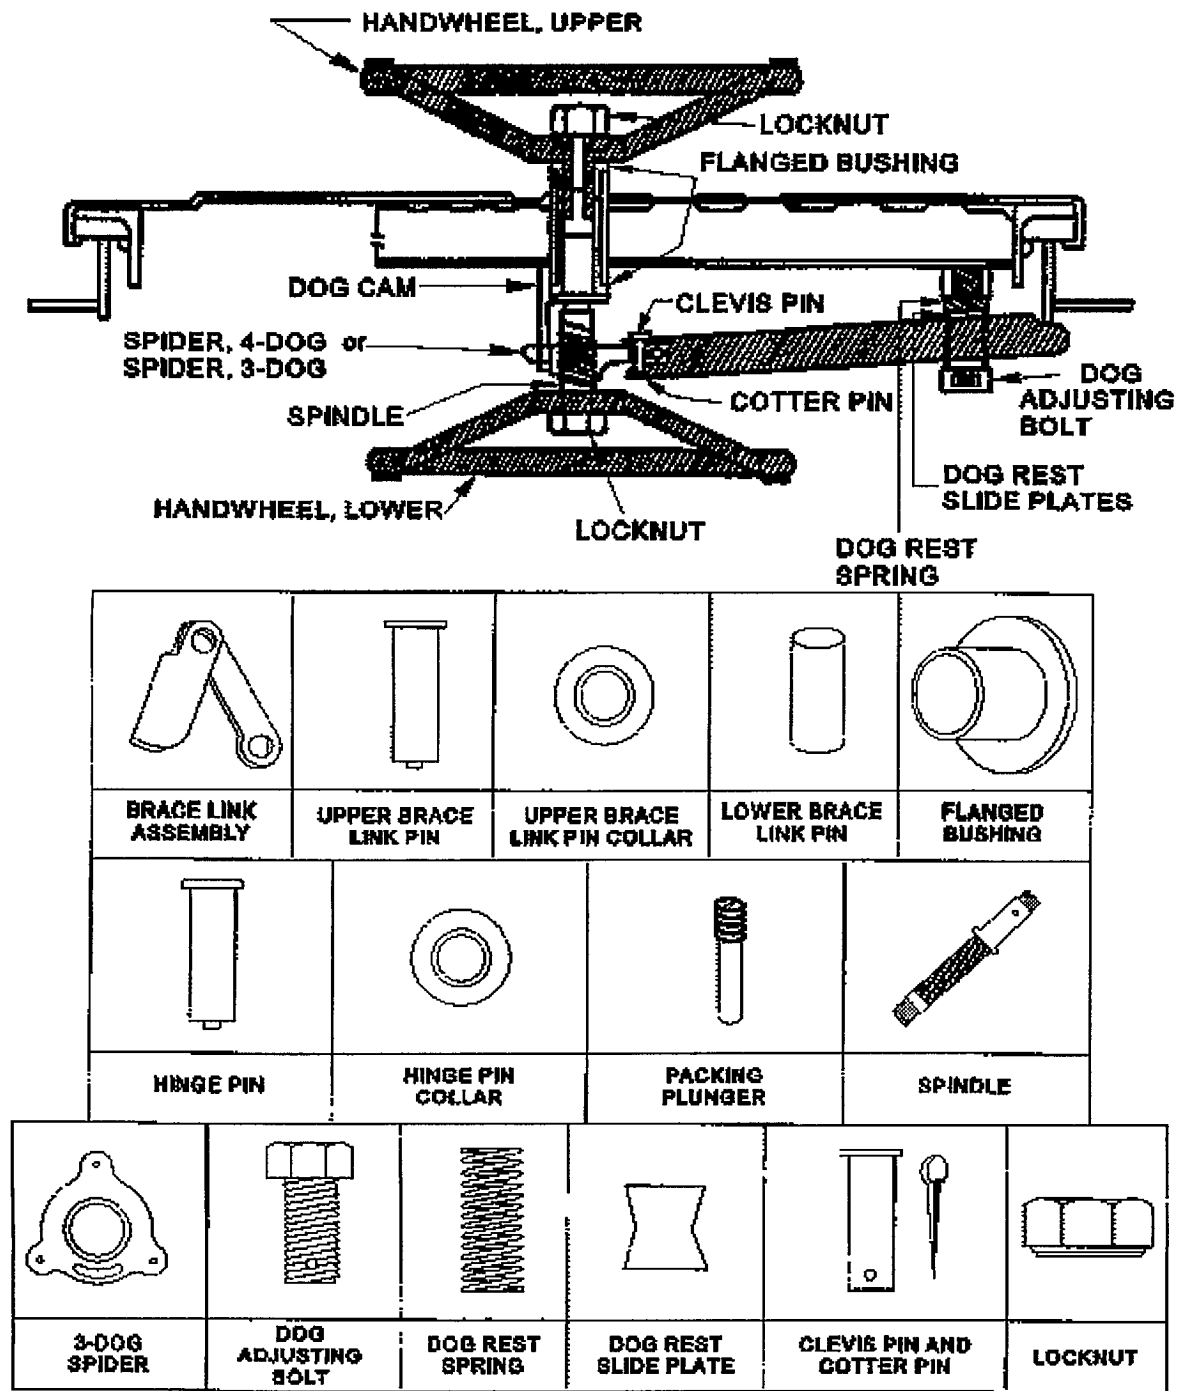
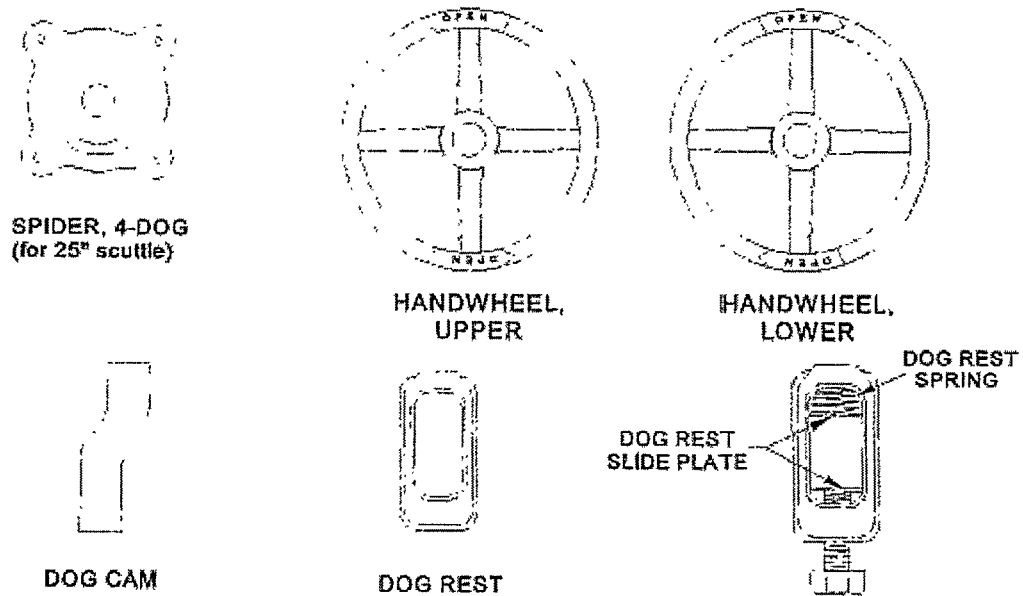

Figure 600-7.5. Raised Scuttle Components
Figure 600-7.6. Scuttle Components
- m) Examine the dog cam welded to the scuttle underside. See figure 600-7.5 and figure 600-7.6. Dog cams can become bent or break away completely over time from operation of the handwheels. If a cam requires replacing, it is important to position the new cam exactly in the same position as the old cam. Carefully mark the position of the old cam to indicate the proper fit-up of the new dog cam to the slot in the spider. If the old cam is missing, the old weld left on the scuttle will give a good idea of the proper position for the cam. Ensure the correct end of the cam is welded to the spider. The longer of the two sections of the cam is the end that should be welded. See figure 600-7.9.